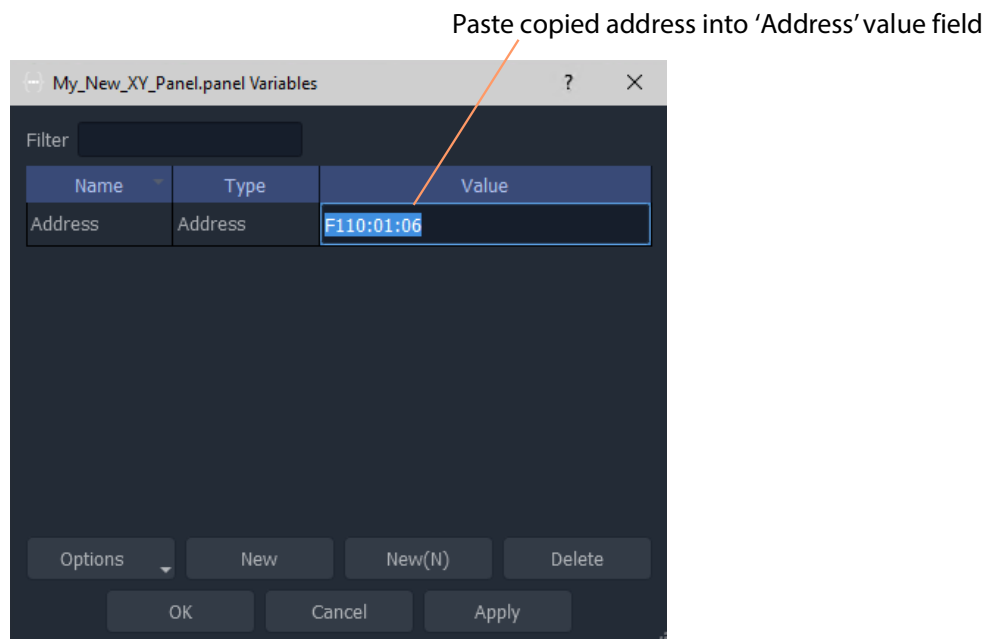

Fig. 14-18: Setting Routing Service RollCall Address for XY Panel
The **Variables** dialog is shown. See Figure 14-18.
- 3 In the **Variables** dialog, paste in the copied RollCall address into the value of the 'Address' variable. See Figure 14-18. (Alternatively, simply enter the address manually.)